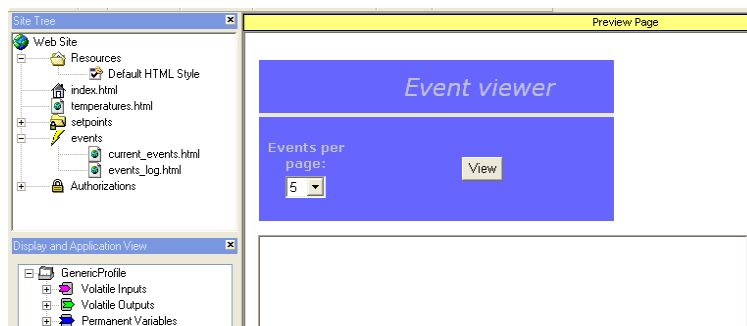

Figure 194: Current Events Page
2. In the Site Tree, select **current\_events.html** to view the Current Events Page (Figure 194). This page can collect up to 20 active events.